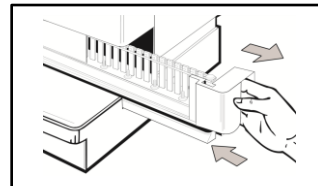

Figure 8
- H. **DIE SLOT:** Where interchangeable die sets are inserted/removed from the punch to modify punch pattern. (Figure 8)